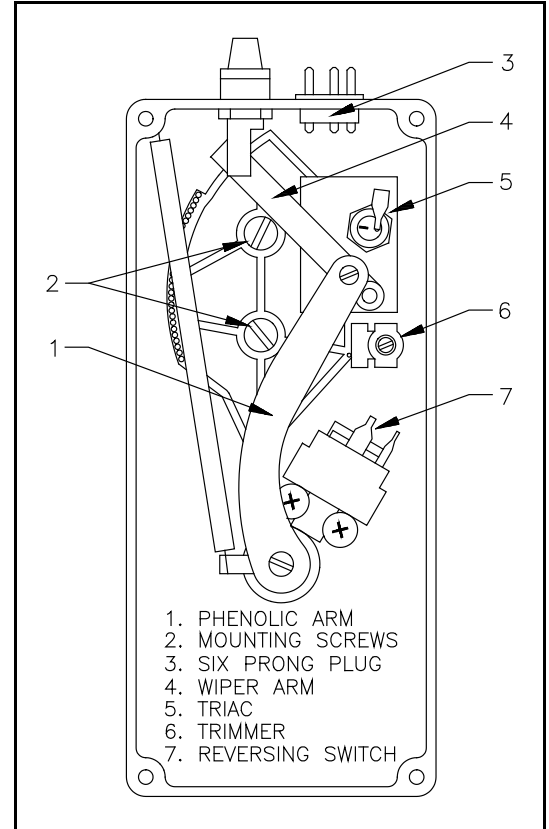

Figure 1. Components
- 3.5 Remove the flat head and the round head screws that hold the curved phenolic arm (1). See Figure 1. Remove the phenolic arm.
- 3.8 Remove the two mounting screws (2 in Figure 1.) that hold the plastic circuit board and remove the circuit board.
- 4.5 Fasten the circuit board into position with the two mounting screws. See 2 in Figure 1. The exact position of the circuit board will be adjusted later.
- 4.9 Push the pedal sideways and depress it so the control is in reverse. Depress the pedal to its full extent and check if the wiper arm (4 in Figure 1.) is riding on the copper bar. Let the pedal return to a non depressed position but still in reverse. Check that the wiper arm is past the last brass contact pin. If not, reposition the circuit board by loosening the mounting screws and moving it. Tighten the mounting screws and check again. The wiper arm should rest on the copper bar when the pedal is depressed and should be past the last brass contact pin when the pedal is released.